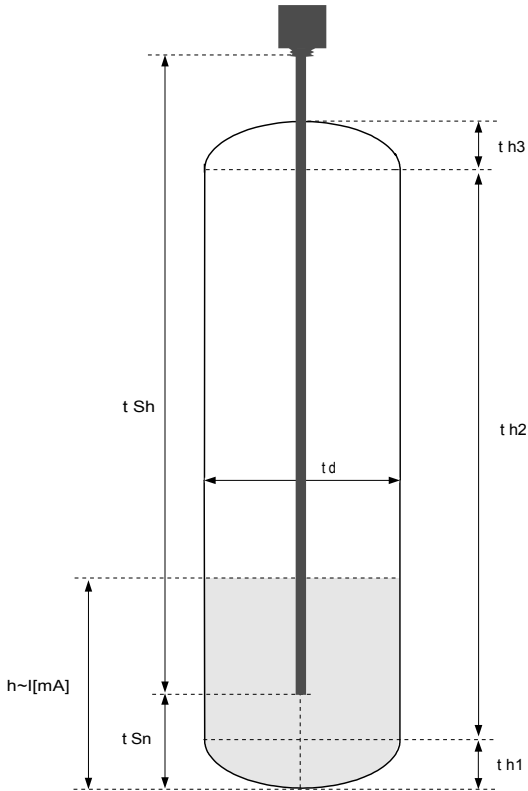
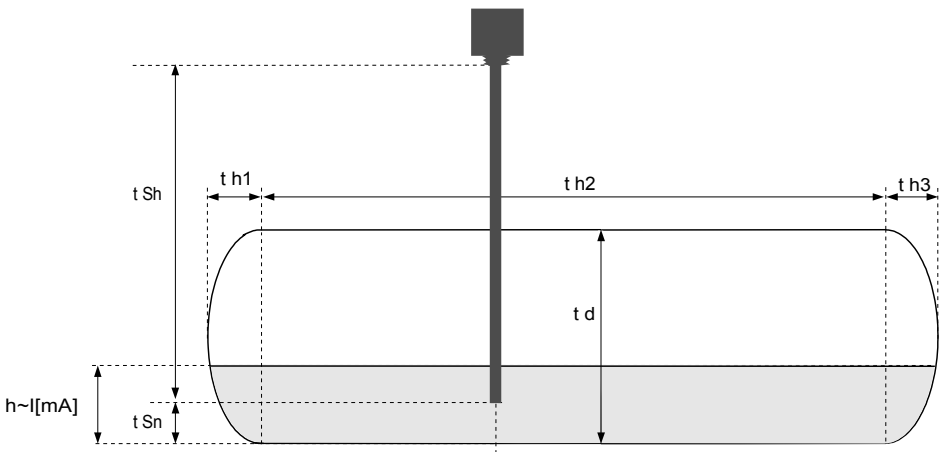

Figure 7.1 Parameters of cylindrical tank in vertical position.
Figure 7.2 Parameters of cylindrical tank in horizontal position.
**„t h1”**, **„t h2”**, **„t h3”**, **„t d”** - the parameters defining shape of cylindrical tank (Figure 7.1 and Figure 7.2).
level of liquids, gases or solids in the tank (Figure 7.1, 7.2).